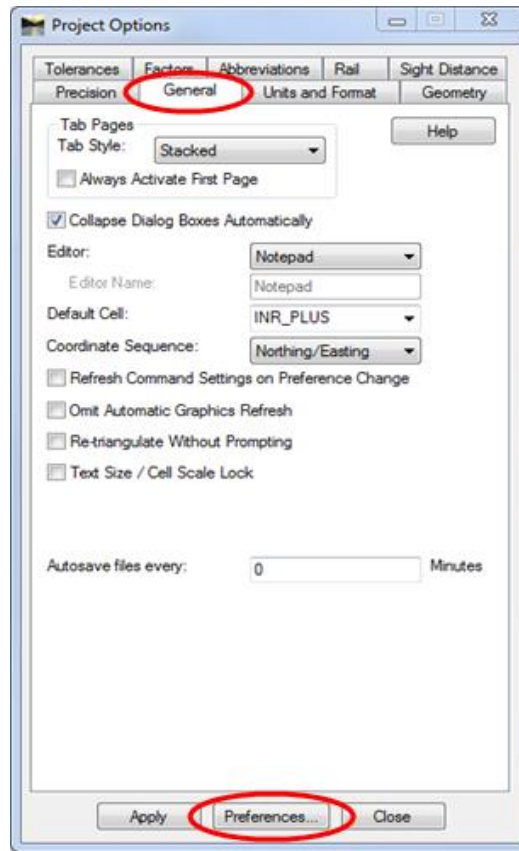

Figure 1-11 InRoads Project Options Box
D. From the InRoads Menu Bar select **File < Project Options**. See Figure 1-11